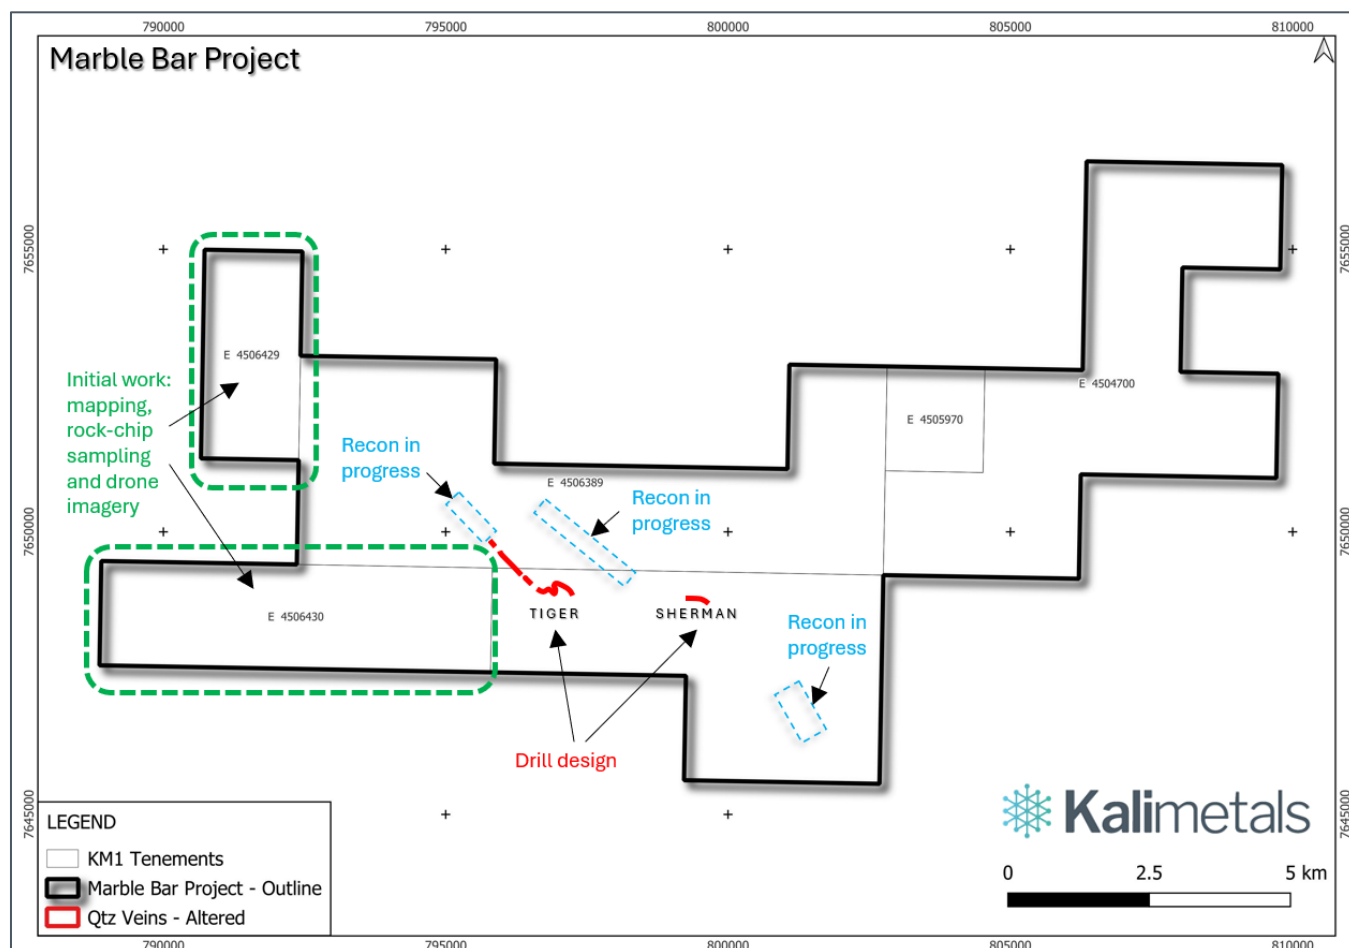

Figure 5. Overview of planned activities over the Marble Bar Gold Project in the next few months
- A new target area has been identified between the Tiger and Sherman Gold Prospects (Refer Figure 5)
Kali will implement the following exploration strategy in the coming months (Refer Figure 5):